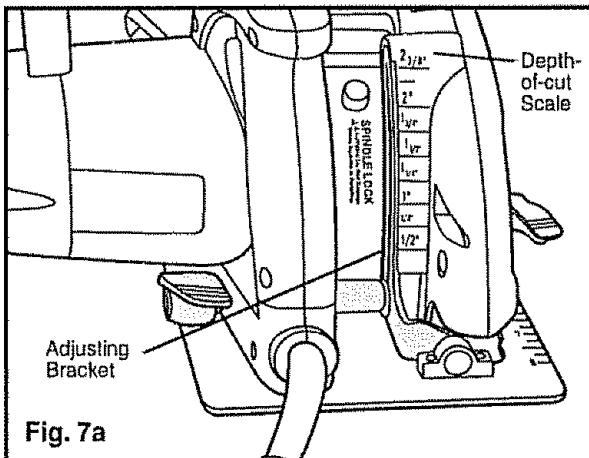

Fig. 7a
TO SET THE BLADE DEPTH (Fig. 7a)
4. Locate the depth-of-cut scale on the back of the upper blade guard (see Fig. 7a).